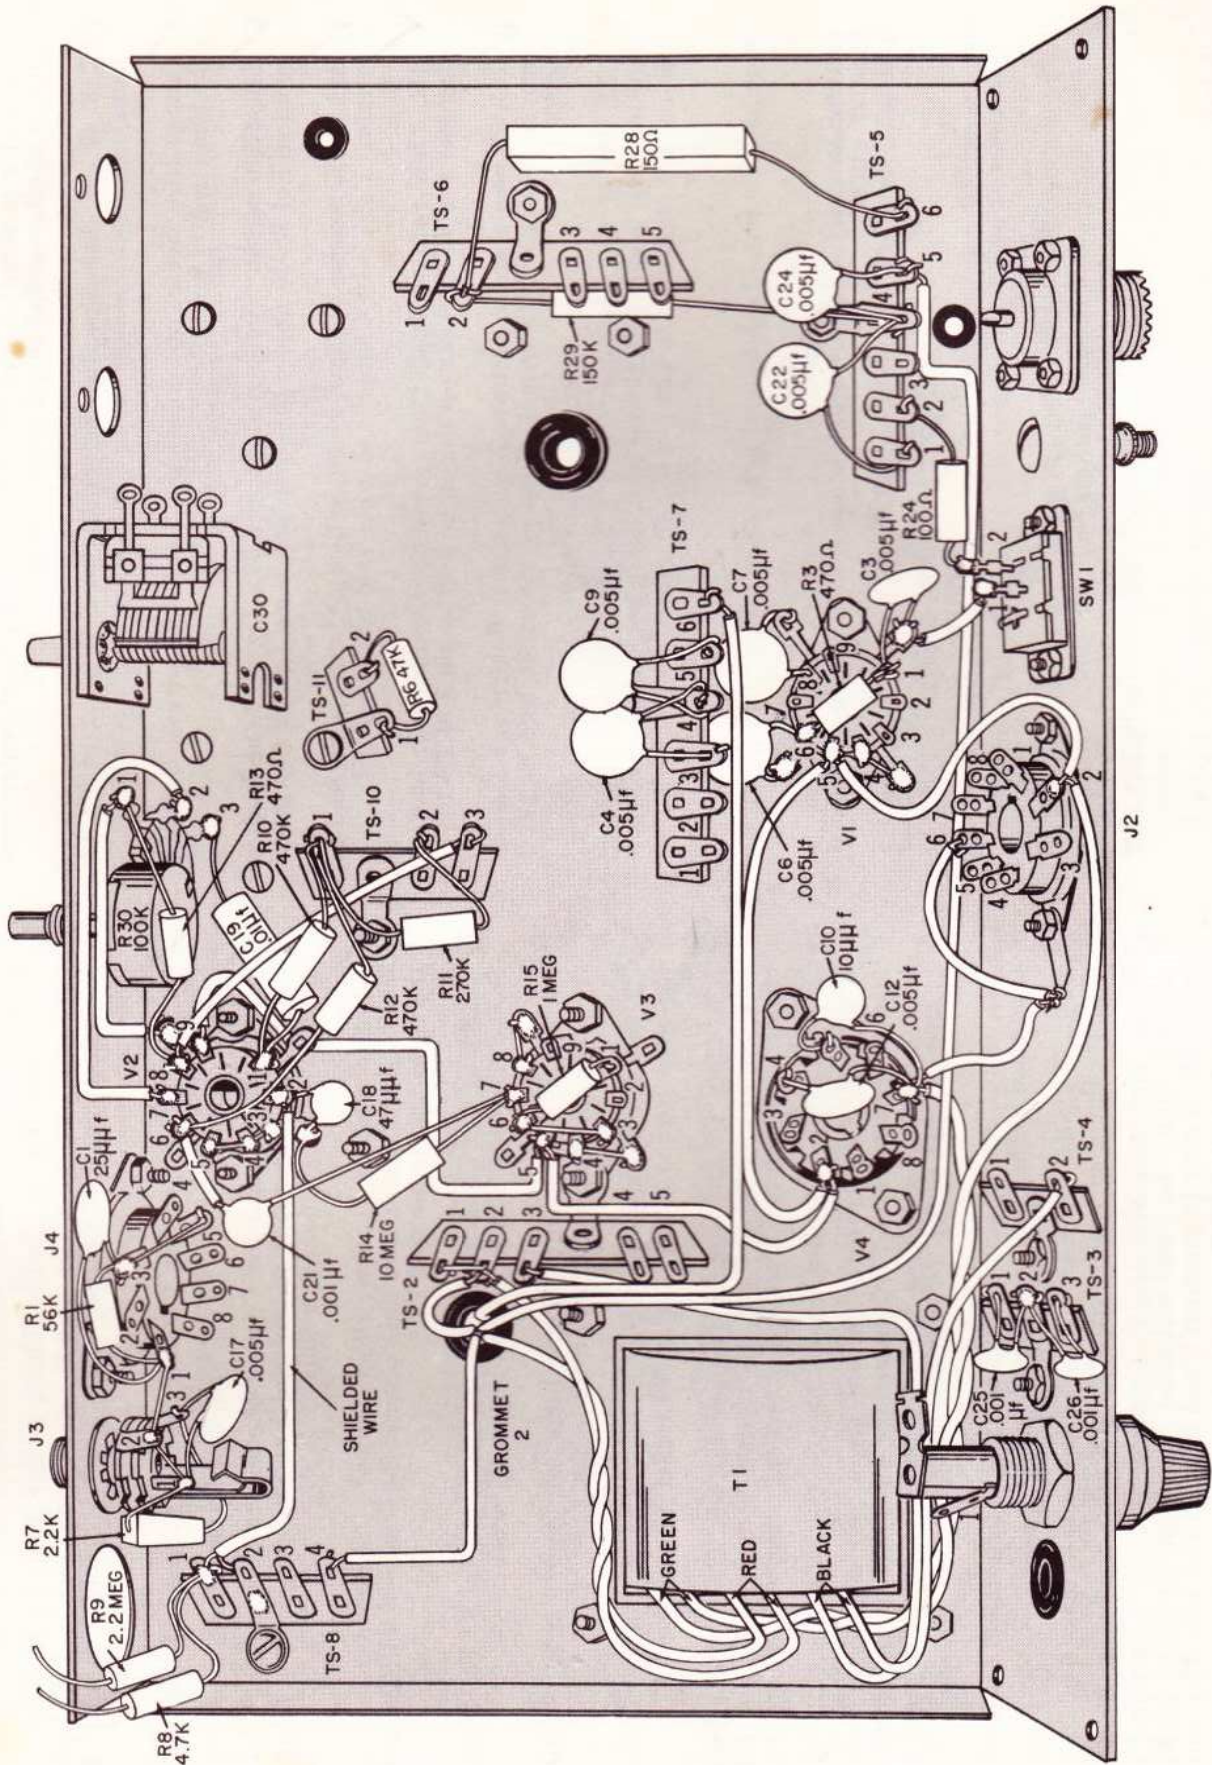

FIGURE 7
## SEE FIGURE 7
Refer to Figure 7. Note position of wires on power transformer (T1). Twist the two green wires and route them along chassis bottom under the fuse holder, TS-3, and TS-4. Connect one wire to pin 2 of socket J2. Connect the other wire to pin 7 of V4.
- R28, 150 $\Omega$ , 10-watt resistor (square shaped). Connect one lead to terminal 2 of TS-6. Place the resistor body flush against the chassis as shown in Figure 7. Connect the other lead to terminal 6 of TS-5.
- White wire with blue tracer. Connect one lead to terminal 5 of TS-5. Route the other end along bottom of chassis as shown in Figure 7, over to grommet 2 and through the hole. This wire will be connected later.
- Twist together the red leads from power transformer T1 as shown in Figure 7. Connect one lead to terminal 2 of TS-2.
- Gray wire. Connect one end to terminal 6 of TS-7. Route as shown in Figure 7, and pass other end through grommet 2. This wire will be connected later.